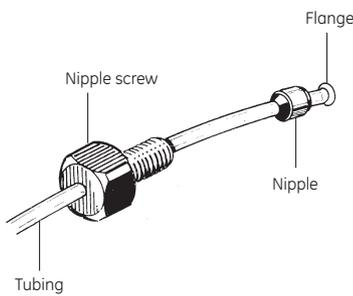

Fig 1. Nipple screw and nipple on tubing.
3. Thread the tubing through the nipple screw and the nipple (figure 1).